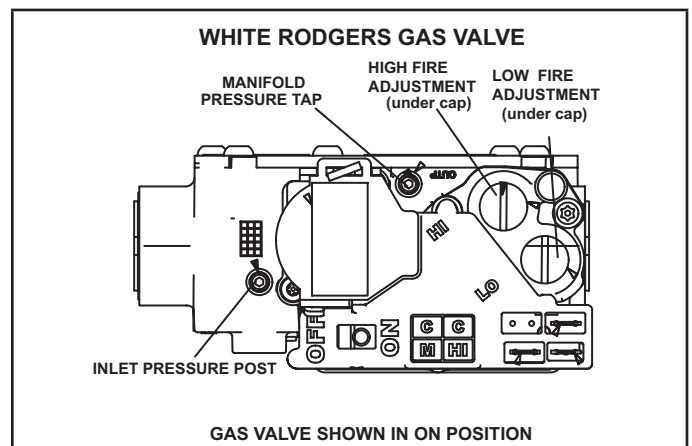

FIGURE 62
Gas Valve Operation (FIGURE 62)
- 6 - Move gas valve switch to OFF. See FIGURE 62.
- 8 - Move gas valve switch to ON. See FIGURE 62.
An inlet pressure post located on the gas valve provides access to the supply pressure. See FIGURE 62. Back out the 3/32 hex screw one turn, connect a piece of 5/16 tubing and connect to a manometer to measure supply pressure. See TABLE 18 for supply line pressure.
A manifold pressure post located on the gas valve provides access to the manifold pressure. See FIGURE 62. Back out the 3/32 hex screw one turn, connect a piece of 5/16 tubing and connect to a manometer to measure manifold pressure.
- 5 - If necessary, make adjustments. FIGURE 62 shows location of high fire and low fire adjustment screws.